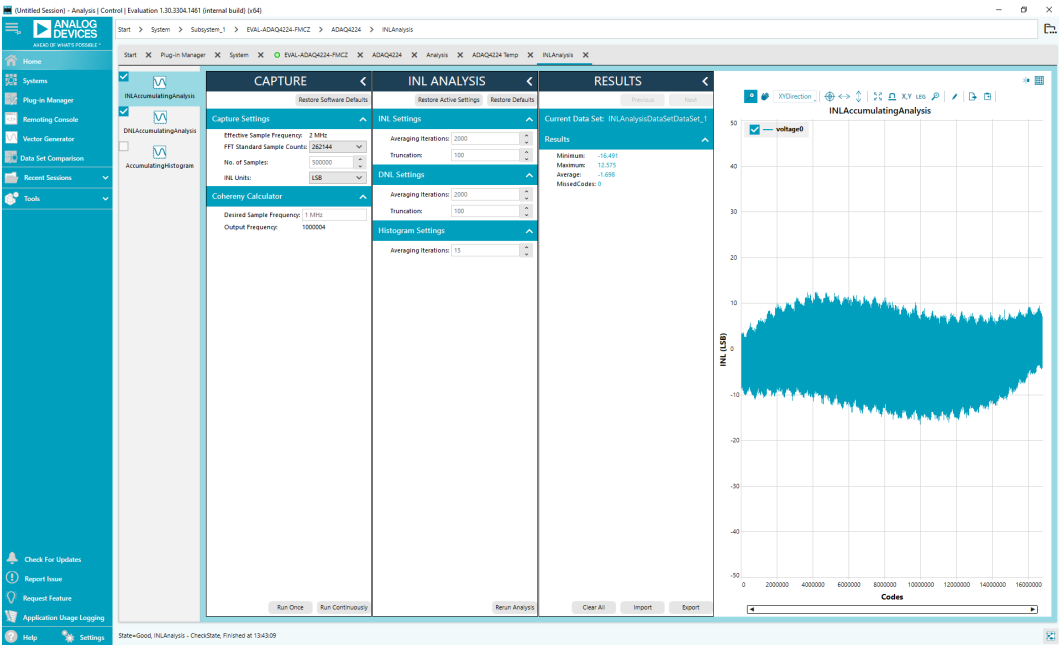

Figure 16. INL Analysis Tab, INL View
7. For INL and DNL analysis, go back to the Chip view tab and click **Proceed to INL Analysis** button. On the **CAPTURE** and **INL Analysis** pane, set the sampling frequency, no. of samples, no. of iterations, truncation, and units. Before doing an INL analysis, modify the EVAL-ADAQ4224-FMCZ and install R67 and remove R59. This connects the VSS_FDA pin of the ADAQ4224 to the -1 V supply. After the INL capture is done, the user can view the results in then INL and DNL views, as shown in Figure 16 and Figure 17.
The INL Analysis tab allows the user to showcase the linearity performance of the ADAQ4224. Before performing any measurements, set the **Capture Settings** and **INL Settings** in the **CAPTURE** and **INL ANALYSIS** pane, respectively, as shown in Figure 16 and Figure 17. To perform linearity test, apply a +0.5 dBFS amplitude sinusoidal signal from a precision signal source at the VIN+ and VIN- SMA inputs of the EVAL-ADAQ4224-FMCZ board. VSS_FDA also needs to be connected to the on-board -1 V supply.